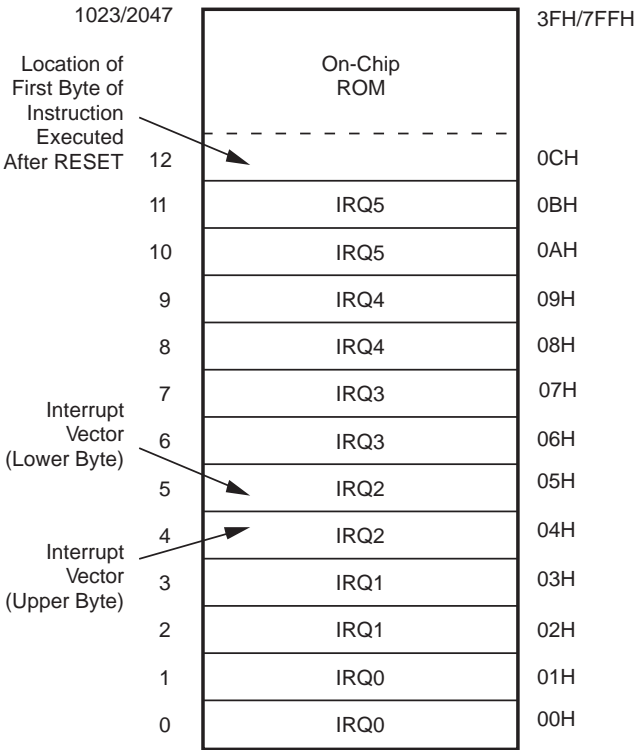

Figure 10. Program Memory Map
**Program Memory.** The Z86C04/C08 can address up to 1K/2K bytes of internal program memory (Figure 10). The first 12 bytes of program memory are reserved for the interrupt vectors. These locations contain six 16-bit vectors that correspond to the six available interrupts. Bytes 0-1023/2047 are on-chip mask-programmed ROM.